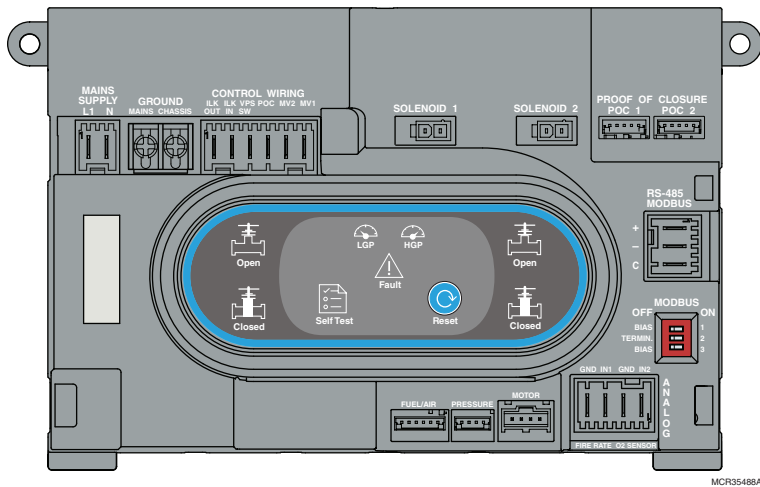

Fig. 144: NEMA 4 / IP66 STANDARD (6) electronics interface.
3. Disconnect all applicable connectors from their sockets inside the main valve electrical enclosure. Refer to Fig. 144.
- c. Refer to Table 25, Fig. 144 and Fig. 145.